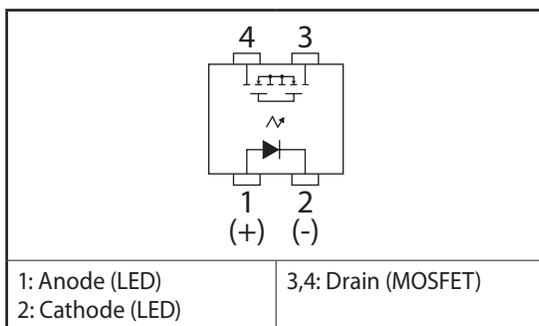

**Fig. 2: Driving an inductive load such as a small relay or solenoid coil**
**Protecting the MOSFET When Driving Inductive Loads:** When driving a small relay or other inductive load with a discrete MOSFET, some protection is required in order to prevent transistor breakdown. When an inductive load, such as a coil, is switched OFF, back-EMF will be generated from the coil and this surge voltage will be applied to the transistor ( $Q_1$ ). A fly-back/flywheel diode ( $D_3$ ), shown in Fig. 2, can help to send energy back to the power source. While a